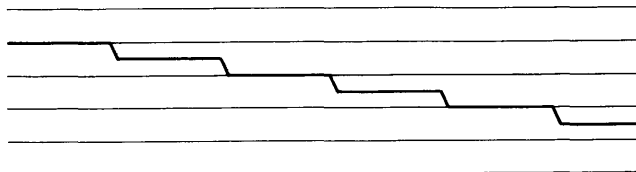

Figure 53. Single-Space Single-Shot Adjusted Correctly
5. Adjust the single-space single-shot within the system to produce the desired result. The resulting graph should be similar to Figure 53.